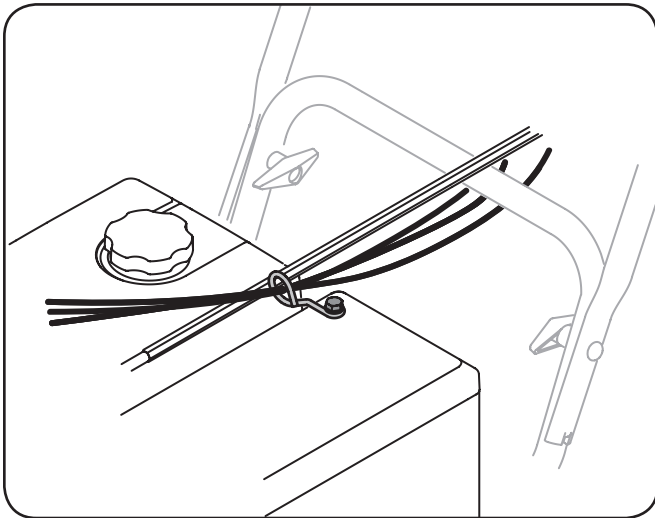

Figure 3-8
- Check that all cables (if equipped) are properly routed through the cable guide on top of the engine. See Fig. 3-8.